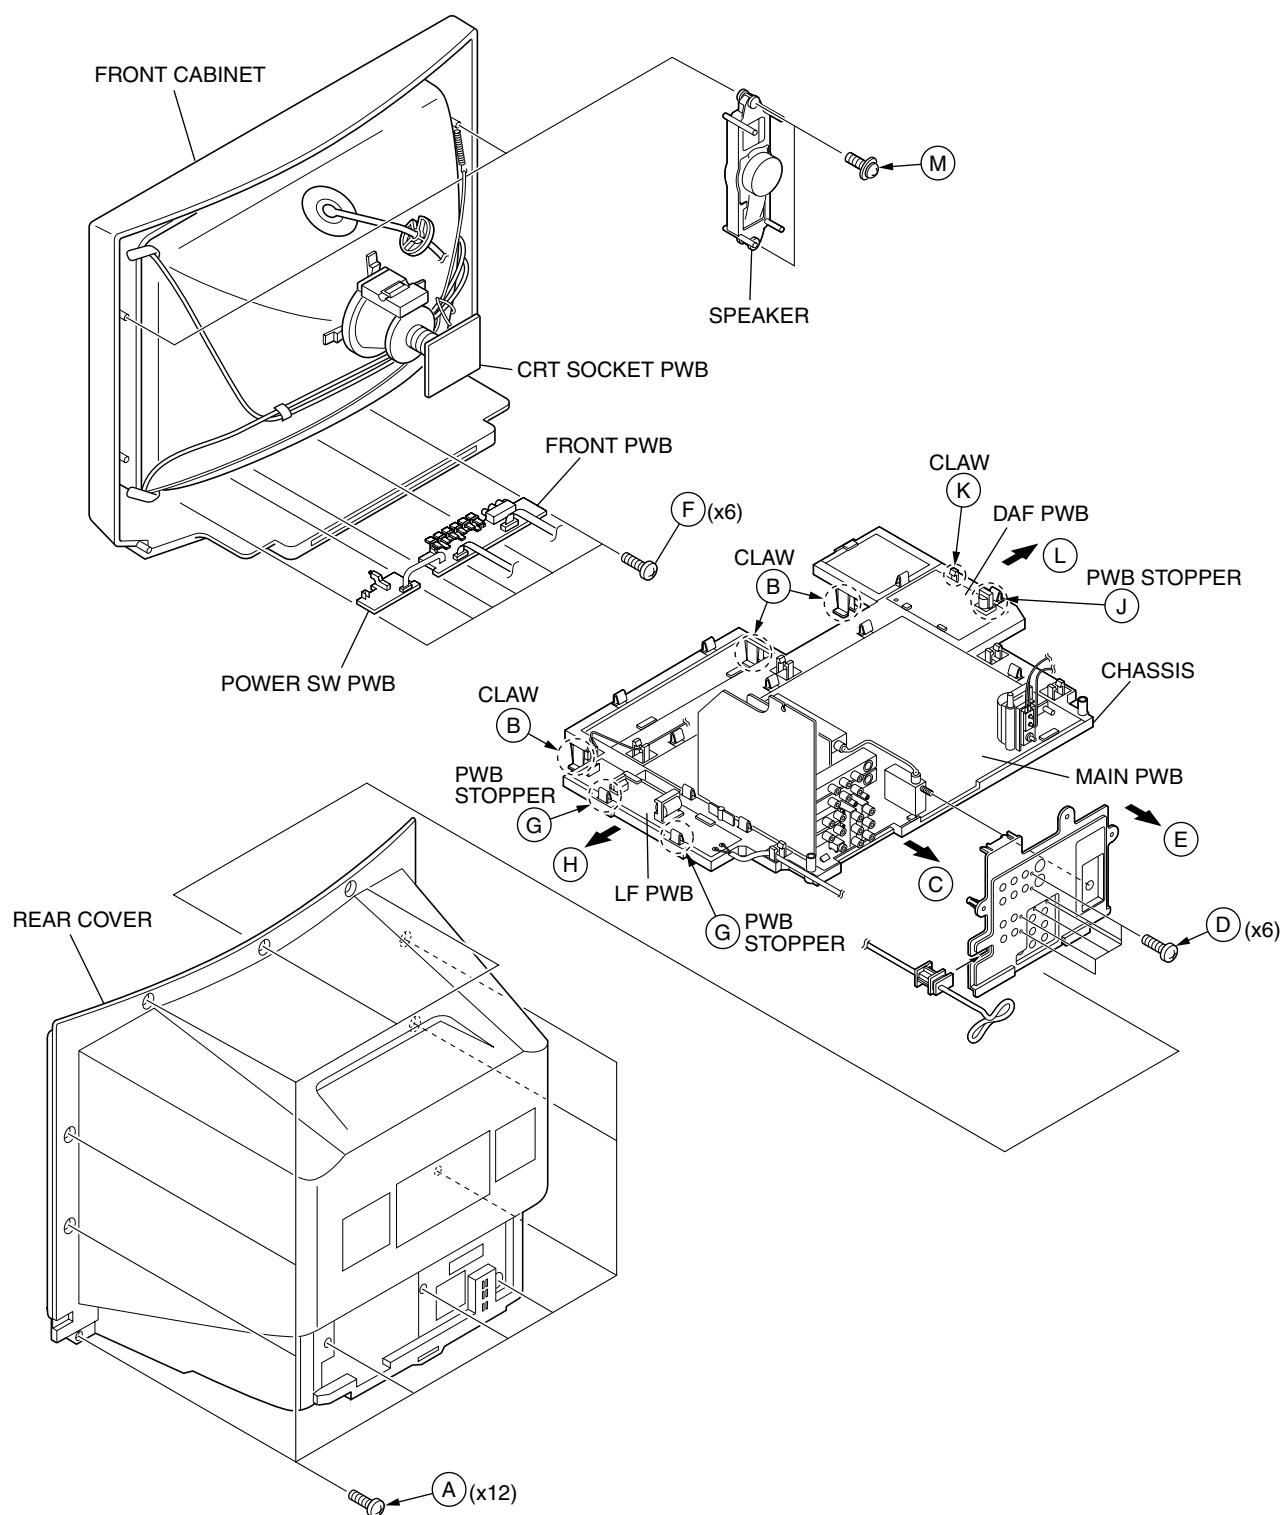

Fig.1
2. Remove the 12 screws marked (A) as shown in Fig.1.
1. Slightly raise the both sides of the chassis by hand and remove the 3 claws marked (B) under the chassis from the front cabinet as shown in Fig.1.
2. Withdraw the chassis backward along the rail in the arrow direction marked (C) as shown in Fig.1.
1. Remove the 6 screws marked (D) as shown in Fig.1.
2. When you pull out the TERMINAL BOARD in the direction of arrow marked E as shown in Fig.1, it can be removed.
1. Remove the 6 screws marked (F) as shown in Fig.1.
1. Lift the left side of the LF PWB while pressing the 2 PWB stoppers marked (G) in the arrow direction marked (H) as shown in Fig.1.
1. Lift the right side of the DAF PWB while pressing the PWB stopper marked (J) and claw marked (K) in the arrow direction marked (L) as shown in Fig.1.
1. Remove the 2 screws marked (M) as shown in Fig.1.
(1) Power off Switch off the power and disconnect the power cord from the outlet.
(2) Replace the memory IC Initial value must be entered into the new IC.
(3) Power on Connect the power cord to the outlet and switch on the power.
(4) System constant check and setting <ol style="list-style-type: none"> 1) Press SLEEP TIMER key and, while the indication of "SLEEP TIMER 0 MIN." is being displayed, press DISPLAY key and VIDEO STATUS key on the remote control unit simultaneously. 2) The SERVICE MENU screen of Fig.1 is displayed. 3) While the SERVICE MENU is displayed, again simultaneously press the DISPLAY and VIDEO STATUS keys to display the Fig.2 SYSTEM CONSTANT screen. 4) Refer to the SYSTEM CONSTANT table and check the setting items. Where these differ, select the setting item with the MENU UP/DOWN key and adjust the setting with the MENU LEFT/RIGHT keys. (The letters of the selected item are displayed in yellow.) 5) After adjusting, release the MENU LEFT/RIGHT key to store the setting value. 6) Press the EXIT key twice to return the normal screen.
(5) Receive channel setting Refer to the OPERATING INSTRUCTIONS(USER'S GUIDE) and set the receive channels (Channels Preset) as described.
(6) User settings Check the user setting items according to Table 2. Where these do not agree, refer to the OPERATING INSTRUCTIONS (USER'S GUIDE) and set the items as described.
(7) SERVICE MENU setting Verify what to set in the SERVICE MENU, and set whatever is necessary.(Fig.1) Refer to the SERVICE ADJUSTMENT for setting.